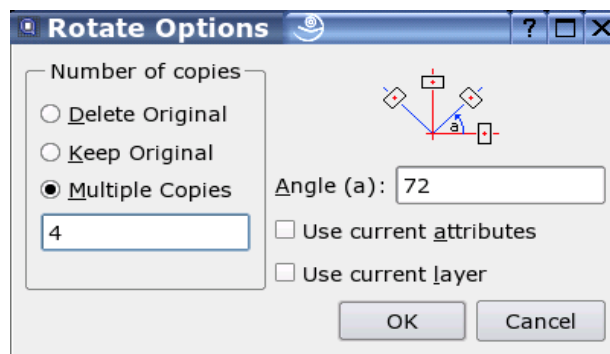

Figure 51: Rotate options dialog.
4. The rotate dialog is displayed (Figure 51). To rotate the entities without keeping the original entities, choose "Delete Original", to copy them choose "Keep Original". Finally you can create a number of rotated copies at once, by choosing "Multiple Copies" and entering the number of copies in the text line below. Note that '9' will create 9 copies and keep the original - so there will be 10 instances of the entities in the end. The copies will have the same attributes and be on the same layer as the original entities. To change that default behavior, you can check "Use current attributes" or "Use current layer".